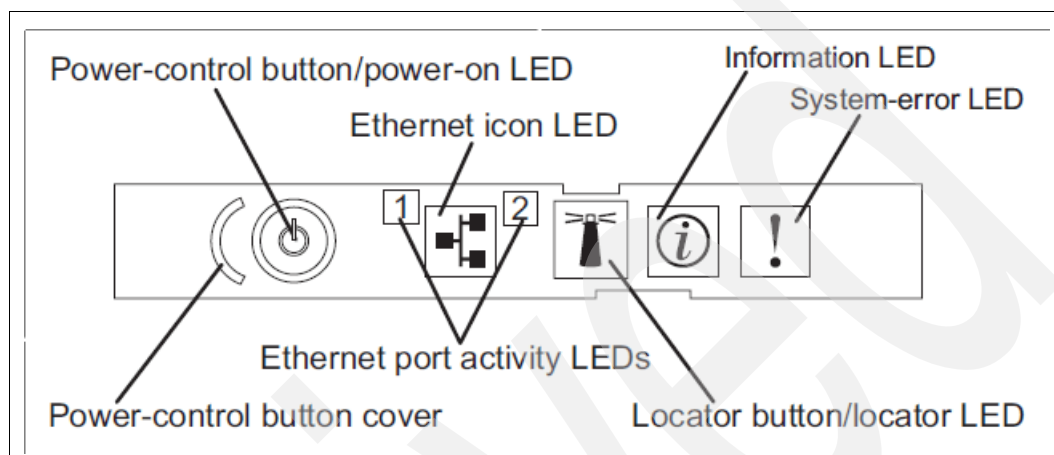

Figure 8-13 Server operator information panel
1. Press the white, recessed power-control button on the ProtecTIER server operator panel; refer to Figure 8-13.